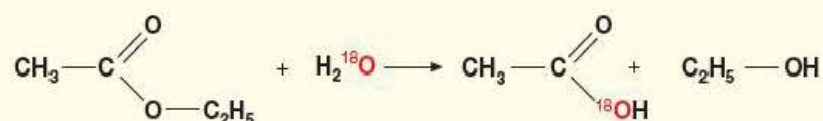

Figure 16.7 ▲
- 5 Look closely at Figure 16.7. Which bond in the ester breaks during the reaction?